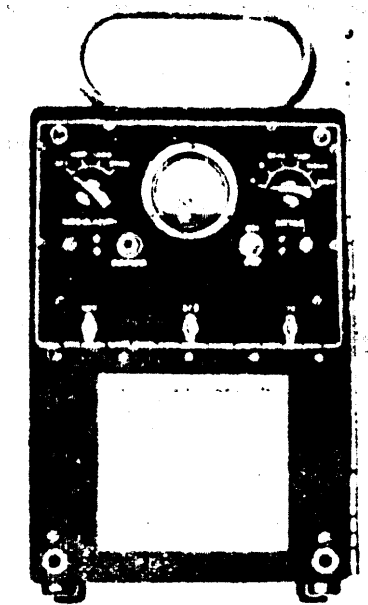

Figure 1-1. Test Oscillator BC-376-H
b. Test Oscillator BC-376-() (see figures 1-1 and 1-1A) is ground equipment used in conjunction with Test Indicator BE-67-() for adjustment and tuning of marker beacon receivers and transmitter. This equipment is a portable, low-power, high-frequency oscillator, with self-contained power supply. Operating on a crystal controlled frequency of 75 megacycles, either modulated or unmodulated, its effective operating range is approximately 20 feet.